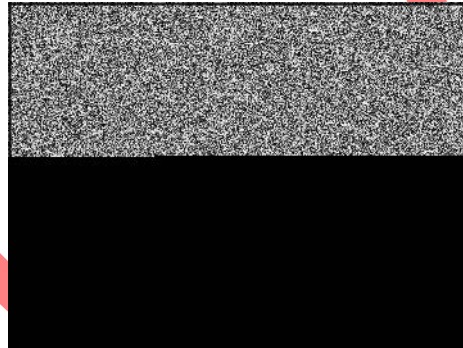

Figure 34
4. Using Tang Bender #19229 or 19352 bend governed idle spring tang to obtain 1750 RPM (Figure 34).